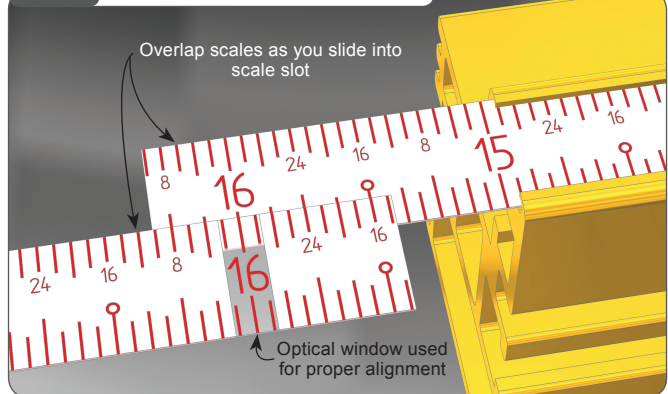

Fig. 7 Lock Front and Rear Actuator to 0°
Loosen the large clamping knob and make sure that the rear actuator left hand tooth is engaged firmly with the 0° notch on the 1/2° adjustment plate. Engage the front actuator tooth with the 0° notch located on the protractor head, **Fig.7**. Tighten the front actuator thumbscrew then tighten the large clamping knob. Using a Phillips head screw driver, loosen the (3) Phillips head screws that secure the fence-mounting bracket to the protractor head. Unplug your table saw, then use a reliable machinist square to set the fence at 90° to the saw blade, **Fig. 8**. Tighten the (3) Phillips head screws.